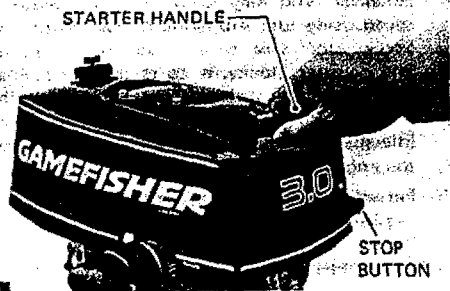

Figure 8
- Pull starter handle slowly until you feel starter engage. Then pull with rapid motion and allow the starter cord to retract slowly. (See Figure 8).
To stop engine, move throttle grip to "Slow" position and press stop button. (See Figure 8)